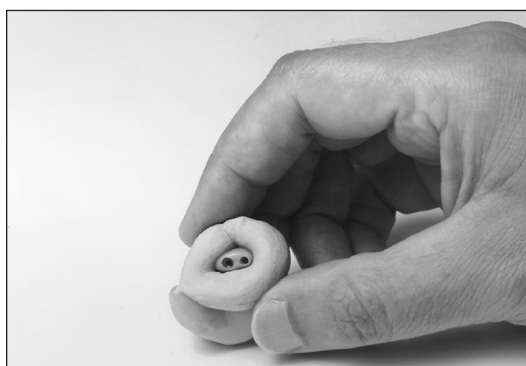

Figure 3.3.1—Setup for a BTE
5. Place the hearing aid/coupler assembly into the sound chamber so that the microphone of the aid is directly over the center of the speaker. The Velcro on the coupler will help secure the assembly in place. See Figure 3.3.1.